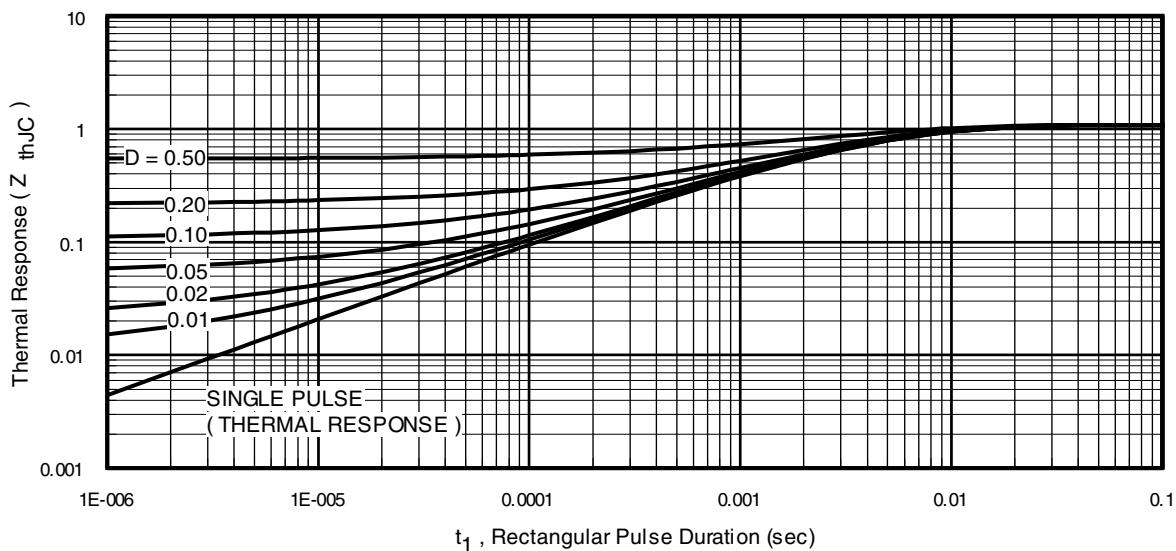
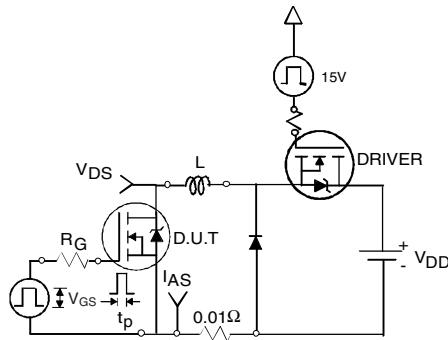

Fig 11. Maximum Effective Transient Thermal Impedance, Junction-to-Case
Fig 12a. Unclamped Inductive Test Circuit
3. Equation below based on circuit and waveforms shown in Figures 12a, 12b.
$Z_{thJC}(D, t_{av})$ = Transient thermal resistance, see figure 11)
- ① Repetitive rating; pulse width limited by max. junction temperature. (See fig. 11).
- ② Limited by T_{Jmax} , starting $T_J = 25^\circ C$, $L = 0.47mH$ $R_G = 25\Omega$, $I_{AS} = 30A$, $V_{GS} = 10V$. Part not recommended for use above this value.
- ③ $I_{SD} \leq 30A$, $di/dt \leq 300A/\mu s$, $V_{DD} \leq V_{(BR)DSS}$, $T_J \leq 175^\circ C$
- ④ Pulse width $\leq 1.0ms$; duty cycle $\leq 2\%$.
- ⑤ $C_{oss\ eff}$ is a fixed capacitance that gives the same charging time as C_{oss} while V_{DS} is rising from 0 to 80% V_{DSS} .
- ⑥ Limited by T_{Jmax} , see Fig.12a, 12b, 15, 16 for typical repetitive avalanche performance.
- ⑦ This value determined from sample failure population. 100% tested to this value in production.
- ⑧ When mounted on 1" square PCB (FR-4 or G-10 Material). For recommended footprint and soldering techniques refer to application note #AN-994